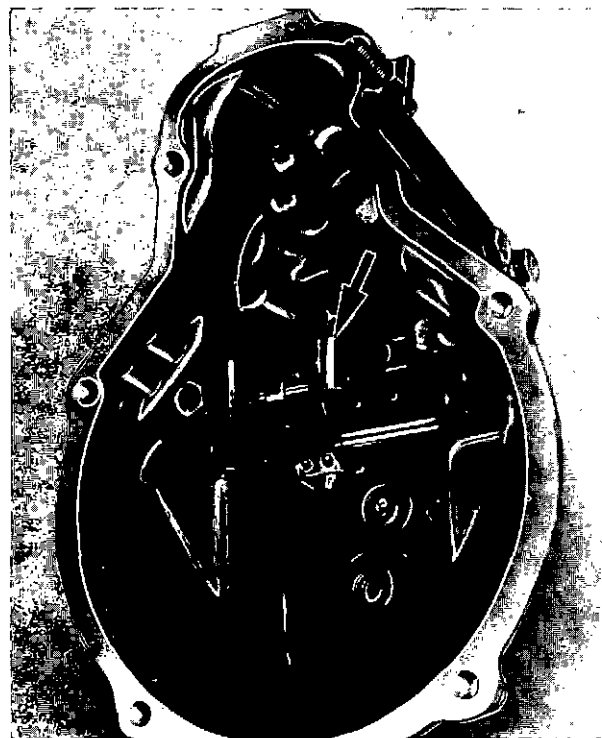
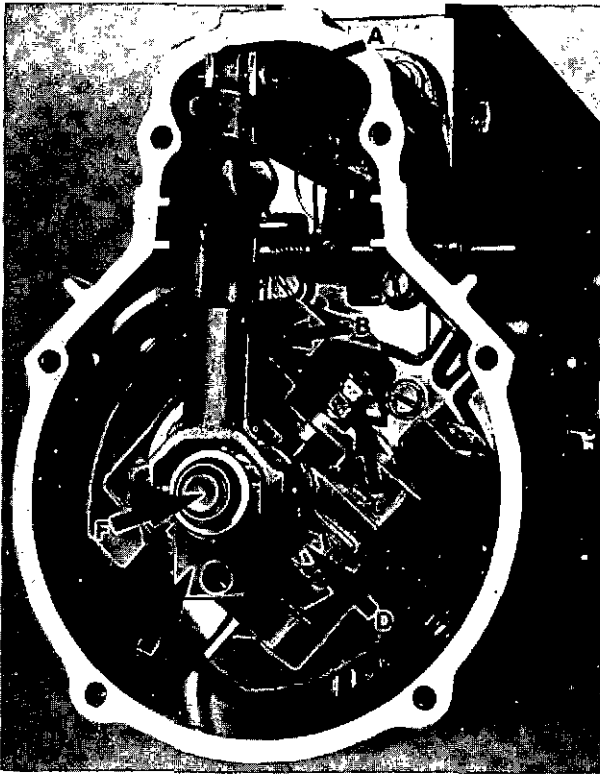
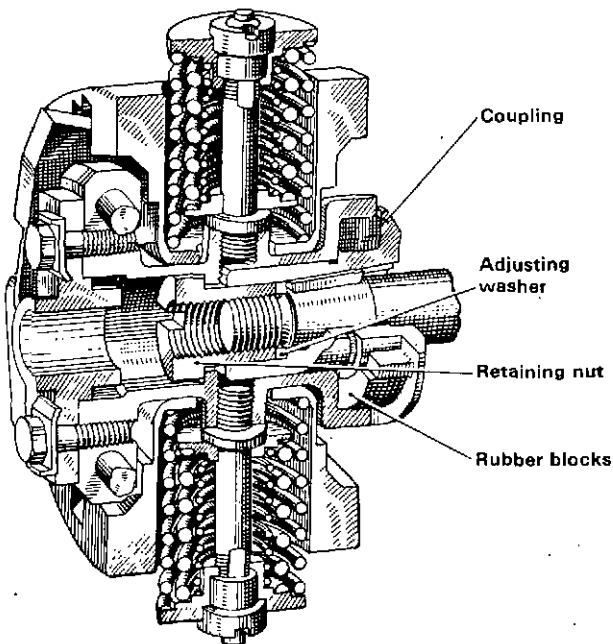

Fig. 45 Rear cover interior; sliding block arrowed
Fig. 46 Governor with rear cover removed
Fig. 53 Flyweight assembly - sectioned
Remove the six retaining setscrews and carefully tap the rear cover with a soft mallet to break the joint. Position the control arm vertically and withdraw the cover after raising it to disengage the sliding block (arrowed, fig. 45) from the floating lever (fig. 46, Item 'B').
2. Again referring to fig. 46, remove link pin 'A' and tie the link fork out of the way. Pull back the slider 'E' with the floating lever 'B', turn lever 'B' clear of the rack extension, swing it back 90 degrees and lift it away, together with the slider. Unlock and unscrew the nuts 'C' from the coupling bolt and remove the bolt. The adjusting pin 'F' can then be withdrawn from the governor hub. Unscrew the two bolts 'D' and remove the guide bush.
2. Fit the guide bush, tighten its securing bolts (fig. 46, Item 'D') and bend up their locking tabs. A sectioned view of the governor assembled to this stage is shown in fig. 53.
- (b) Ensure that the sliding block is positioned with its long section uppermost (fig. 45) when it enters the slotted recess in the floating lever (fig. 46, Item 'B').